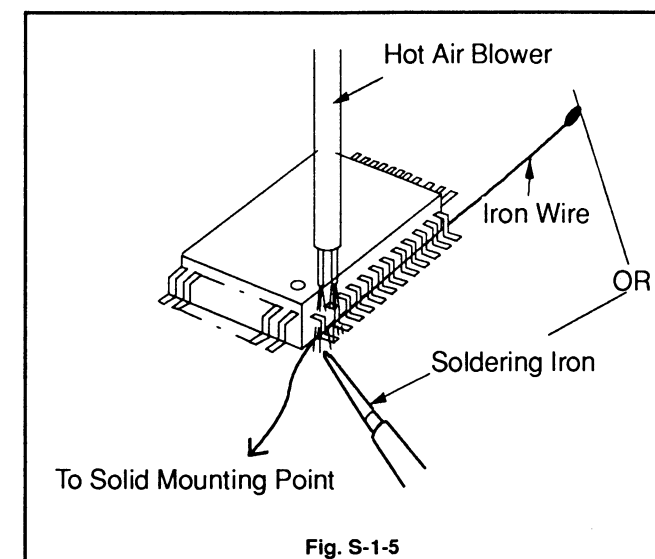

Fig. S-1-5
- (2) Affix the wire to a workbench or solid mounting point, as shown in Fig. S-1-5.
- (3) While heating the pins using a fine tip soldering iron or hot air blower, pull up the wire as the solder melts so as to lift the IC leads from the PCB contact pads as shown in Fig. S-1-5.